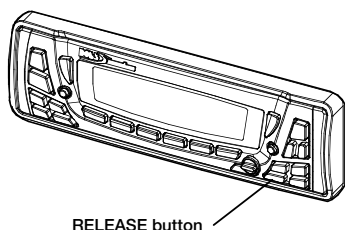

Figure 5 Press RELEASE to release the front panel
1. Press the RELEASE button to lower the front panel. **(Figure 5).**